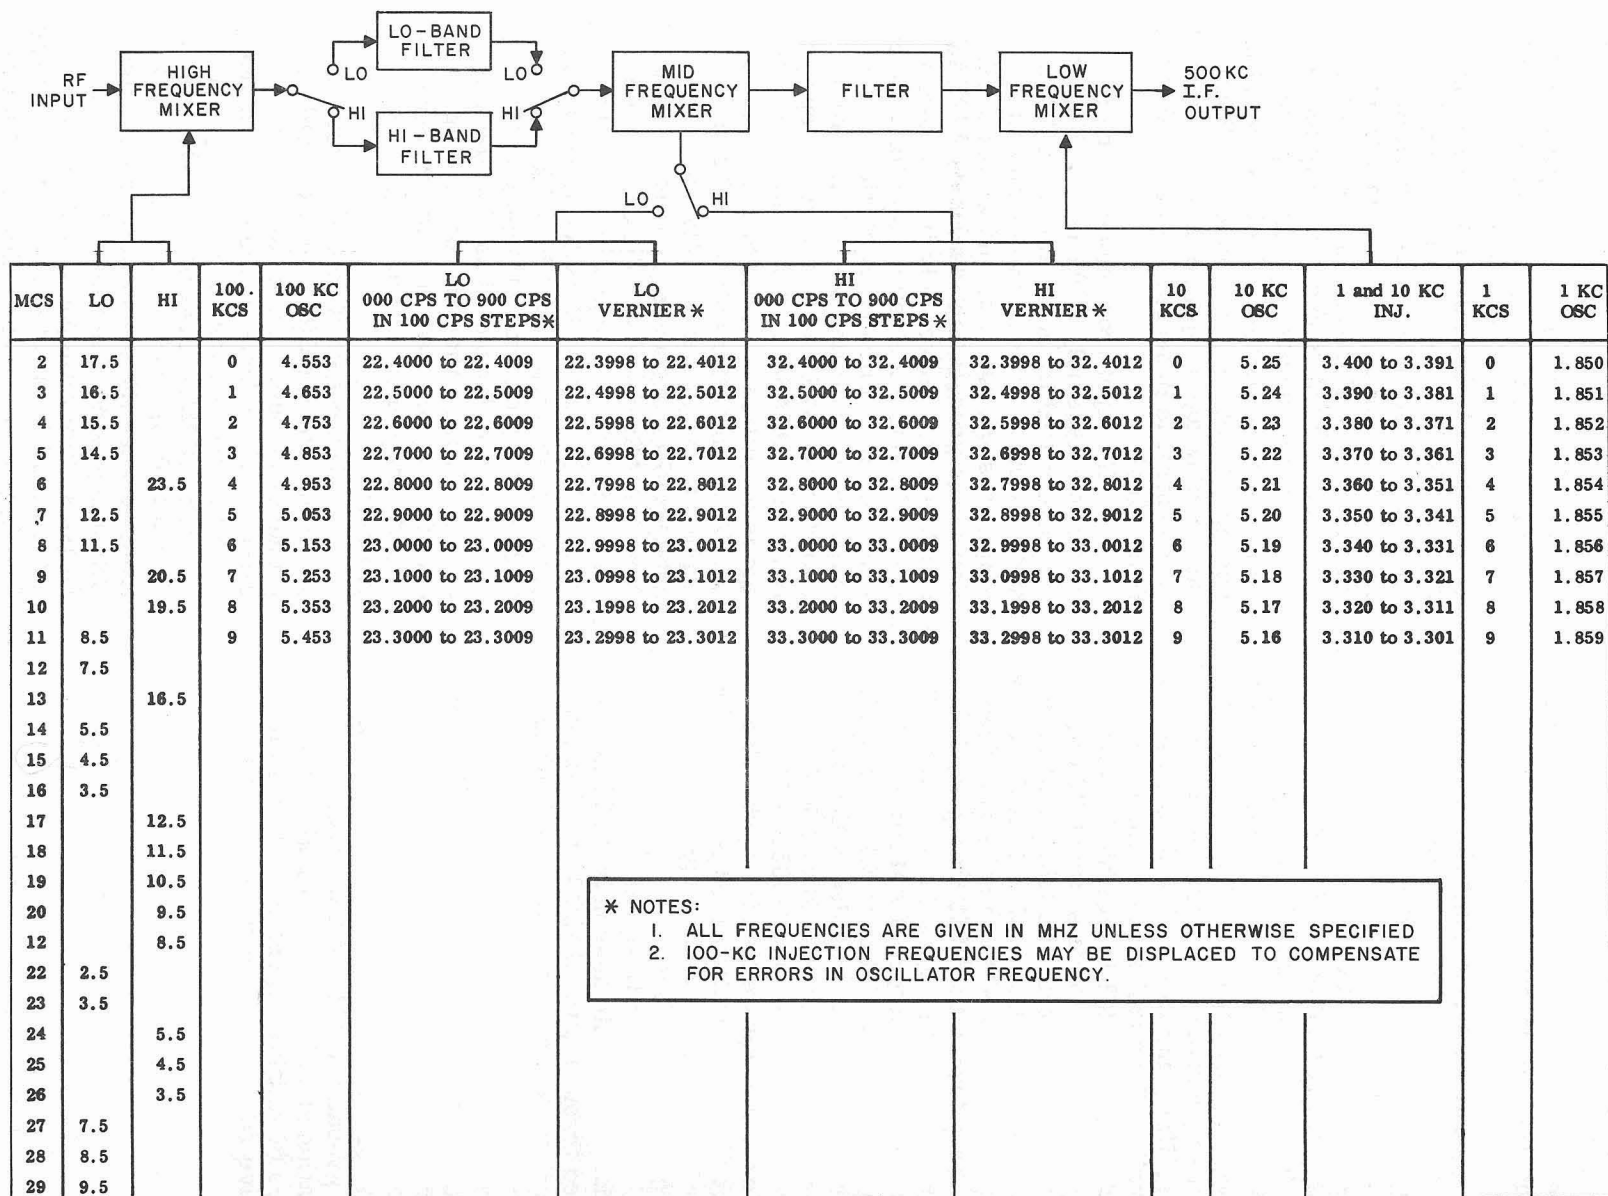

Figure 3-2. Frequency Translation, Functional Block Diagram
The rf signal from the antenna is converted to the 500-kHz intermediate frequency as follows. Assume that the frequency controls on the front panel are set for a frequency of 13,492,500 Hz. (See figure 3-2 for frequency translation in the R-1051D/URR.) The 1-MHz injection corresponding to the selected MHz digits (13) is 16.5 MHz in the hi-band. The level-controlled 16.5 MHz is additively mixed in
high frequency mixer A2A6A6Z1 with 13,492,500 Hz producing 29,992,500 Hz which is filtered and applied to mid frequency mixer A2A6A6Z2. Since the MHz digits (13) are in the hi-band and the CPS switch is in the 500 position, the 100-kHz injection frequency corresponding to the 100-kHz digit (4) will be 32.8005 MHz, as shown in figure 3-2. Mid frequency mixer A2A6A6Z2 subtractively mixes the 29,992,500-Hz and the 32.8005-MHz signals thereby producing a frequency of 2,808,000 Hz, which is filtered and applied to low frequency mixer A2A6A6Z3. The 1- and 10-kHz injection is that frequency of 10 kc oscillator A2A6A3A1 corresponding to the 10-kHz digit (9) minus that frequency of 1 kc oscillator A2A6A3A2 corresponding to the 1-kHz digit (2). As shown in figure 3-2, this results in an injection frequency (5.16 MHz minus 1.852 MHz) of 3.308 MHz. The 3.308 MHz is subtractively mixed with the 2,808,000 Hz producing the 500-kHz intermediate frequency. Similarly, any frequency between 2 MHz and 30 MHz may be translated into the 500-kHz intermediate frequency.